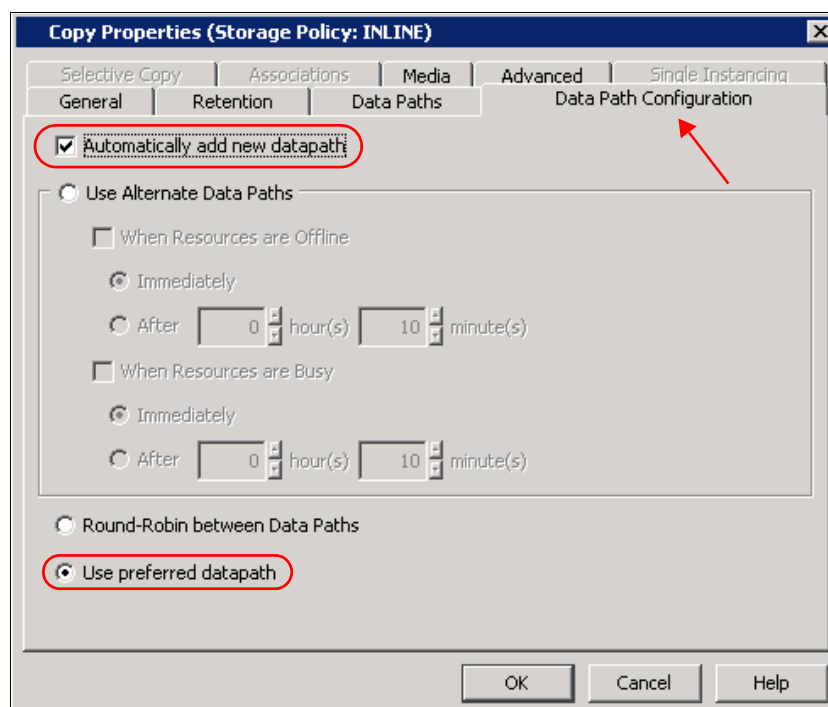

Figure 18-22 Automatically add new data paths
2. Navigate to the **Data Path Configuration** tab of your Storage Policy **Copy Properties** window (Figure 18-22).